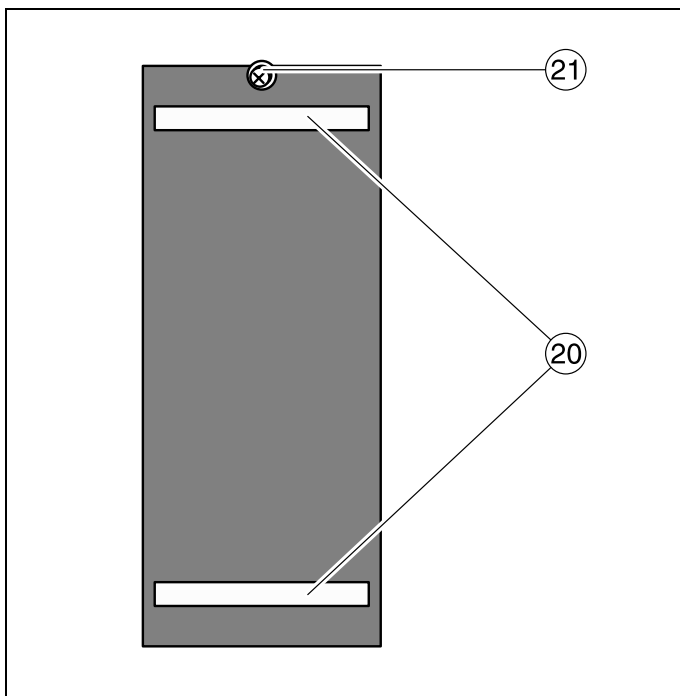

Fig. 3
2.3 Falling body for VideoCom (337 472), see Fig. 3
- ⑳ 2 strips of retroreflecting foil 200 mm \pm 0.2 mm apart